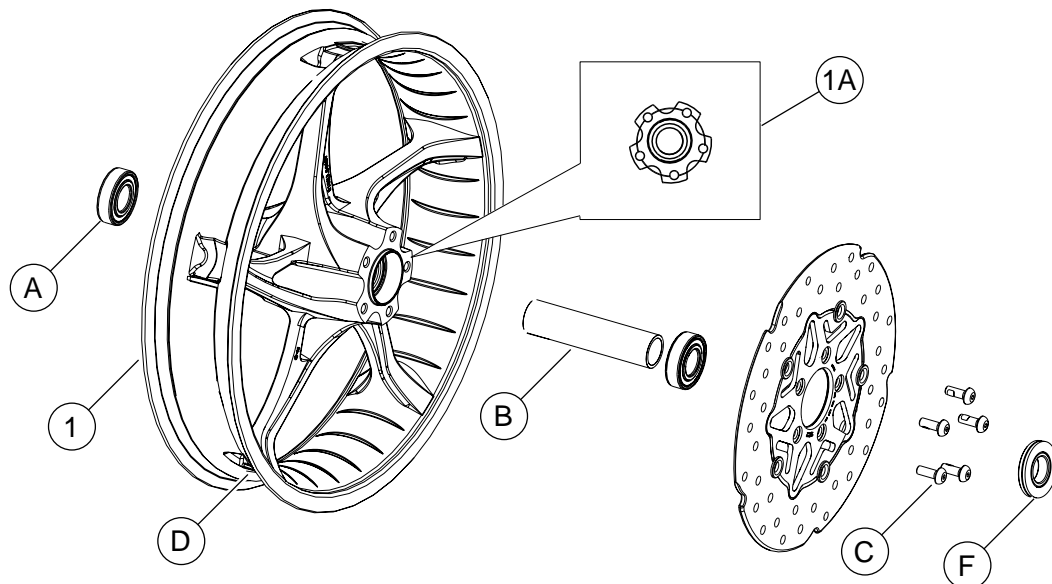

Figure 1. Service Parts: Front Stinger Wheel
See Figure 1 and the Service Parts Tables.
2. See Figure 1. Install valve stem assembly (D) on wheel. See the service manual.